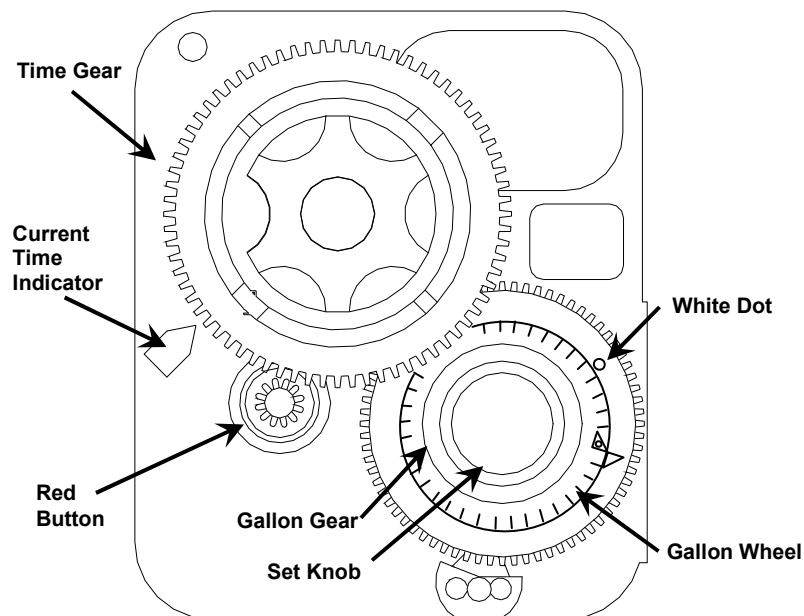

Figure 1
The black center knob will make one revolution in the following three (3) hours (approximately) and stop in the position shown in Figure 1.